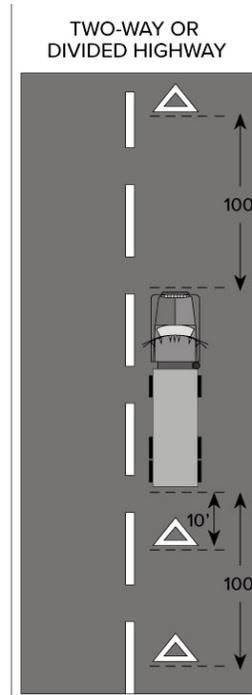

Figure 2.9
- If you stop on a two-lane road carrying traffic in both directions or on an undivided highway, place warning devices within 10 feet of the front or rear corners to mark the location of the vehicle and 100 feet behind and ahead of the vehicle, on the shoulder or in the lane you stopped in. See *Figure 2.9*.